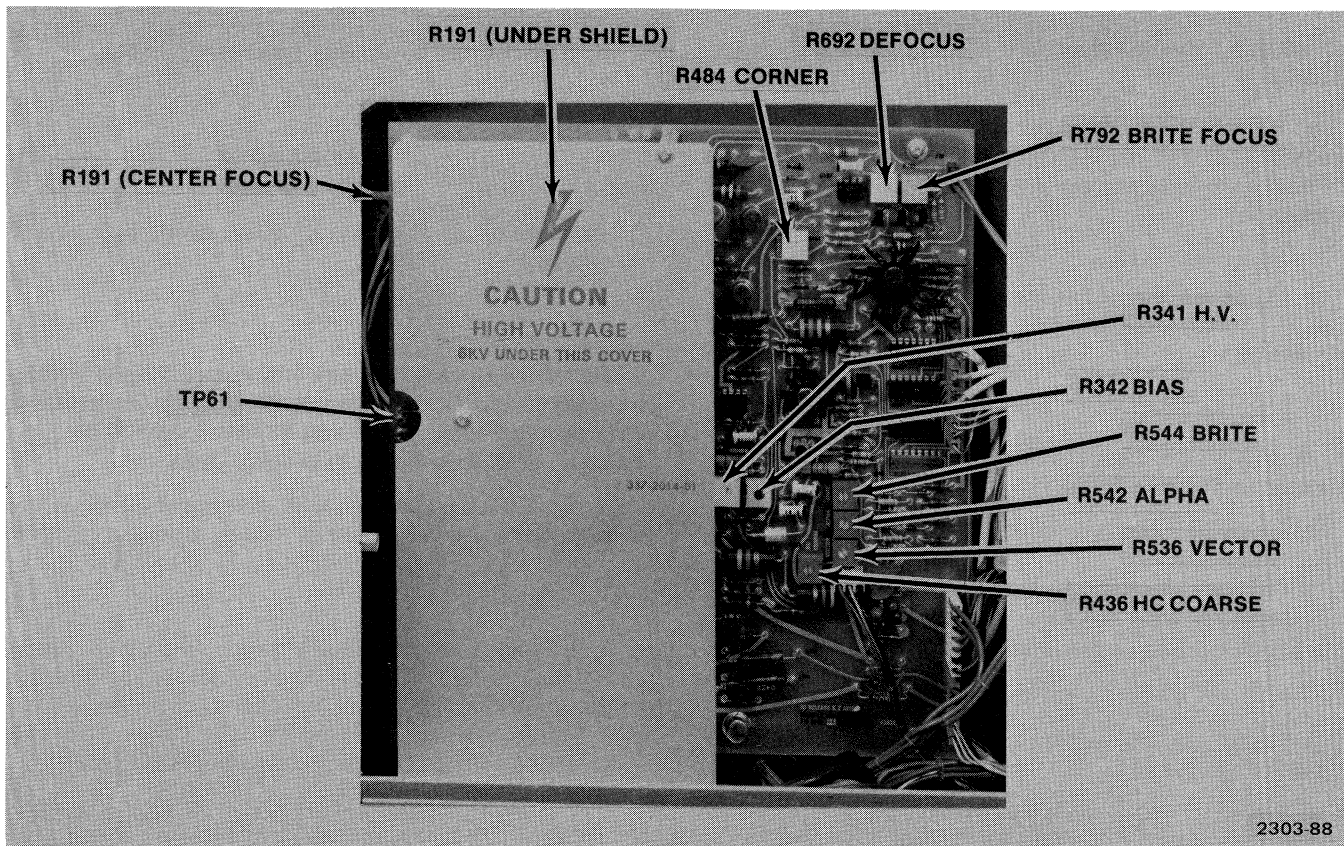
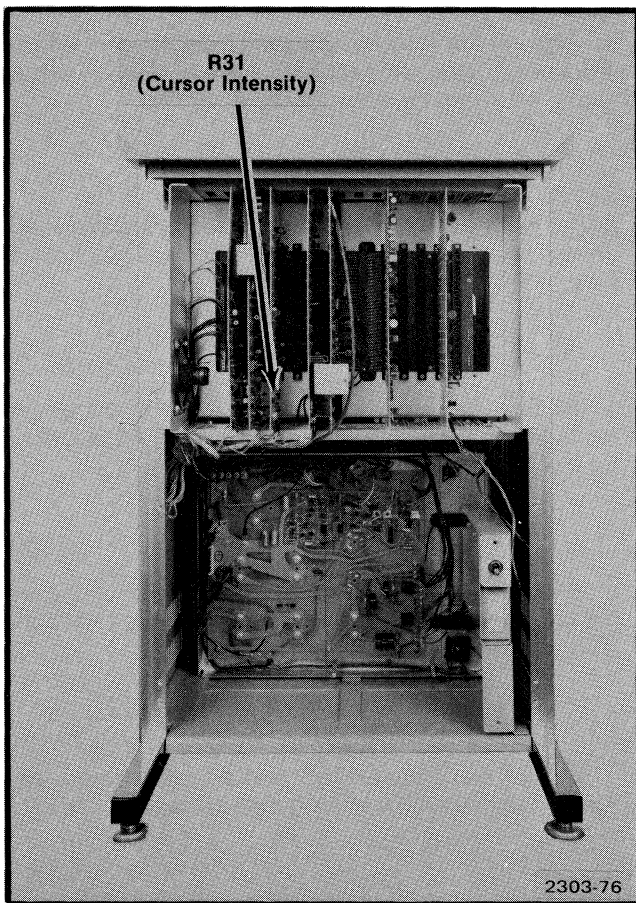
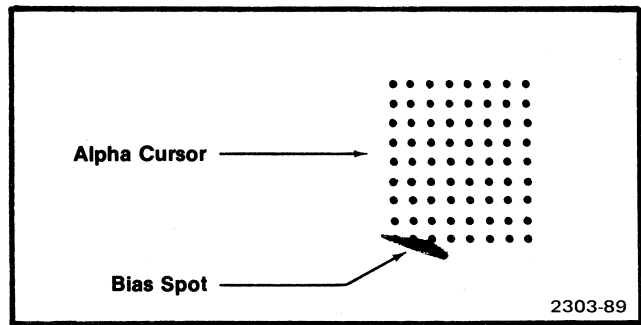

Fig. 4-13. High voltage adjustments.
Fig. 4-14. Pedestal circuit card information.
Fig. 4-15. Alpha Cursor and Bias Spot.
b. Using a high voltage voltmeter with 1% accuracy set to read -6000 V dc, place the negative probe on TP61 and the positive probe on the chassis for ground. Refer to Fig. 4-13.
(1) The Terminal may be in Hold Status. Press the SHIFT key to regain View Status.
(2) The Cursor Intensity adjustment, R31, on the display Control card may be set too low. Turn it clockwise to increase cursor intensity. (Fig. 4-14).
(3) The Deflection Amplifier circuits could be maladjusted causing the cursor to be beyond the top or left of the screen. Entering SPACE commands and LF commands at the keyboard should cause the cursor to appear. If it does, refer to corrective adjustments pertaining to the GAIN and POSITION on the Deflection Amplifier Board (R56, R92, R270, and R273) and adjust as necessary to bring the cursor into view when at the home position..
(4) There could be an absence of High Voltage. See the High Voltage Check/Adjustment.
(5) The ALPHA INTENSITY adjustment R542 on the High Voltage and Z Axis Board (Fig. 4-13) may be set too low. Turn it clockwise.
(6) The BIAS adjustment, R342, on the High Voltage and Z Axis board (Fig. 4-13) may be set too low. Turn R342 clockwise while looking at the screen to prevent inadvertent burning of the crt phosphors.
(7) The Storage Circuits could be maladjusted.
e. With the cursor at the home position, press PAGE and check for the momentary appearance of a dot at the bottom-left corner of the cursor. The dot may appear just before the cursor comes back into view. Adjust R342 (BIAS) until no spot shows in the bottom left corner of the cursor while erasing the display (before the cursor becomes visible). To adjust, bring the spot into view with the adjustment; then increase the bias until it no longer appears. Refer to Fig. 4-15.
g. Adjust R21 on the Display Control card (Fig. 4-14) until the cursor is at minimum brightness consistent with good viewing. (Final intensity will be done later in the procedure.)
h. On the High Voltage and Z Axis board adjust R191 (CENTER focus) to obtain a reasonably focused cursor. R191 adjustment is made available by an opening in the back panel of the Display Unit. (See Fig. 4-13).